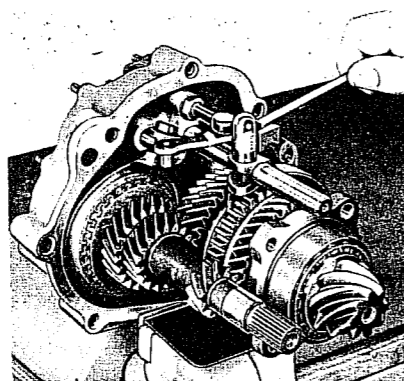

Fig. E.18. Removing the selector fork locking screws.
11. Remove the locking screws from the 1/2 gear fork and the 3/4 gear fork and take off the 1/2 gear fork (Fig. E 18). It is best if the gear carrier can be supported in a stand or large vice. If the latter is used, make sure that the machined face is not damaged by the jaws.